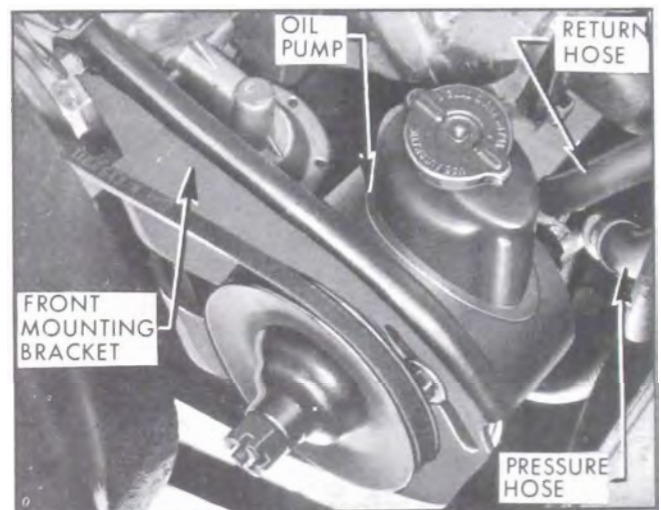

Figure 8-37—Oil Pump Mounting - V-6 Engine
5. On V-6 engine cars, remove the two bolts that retain pump front bracket to cylinder block and timing chain cover. There are two slots in the crank shaft flange to allow access to lower bolt. Then remove bolt and nut that retain front bracket to rear bracket and remove pump. See Figure 8-37.